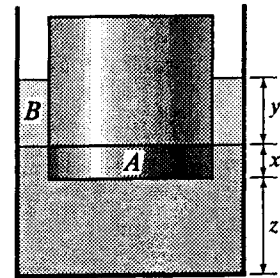

Figure X3.9.5
3.9.5 *An 8-in diameter solid cylinder 3 in high weighing 3.4 lb is immersed in liquid ($\gamma = 52$ lb/ft³) contained in a tall, upright metal cylinder of 9 in diameter (Fig. X3.9.5). Before immersion, the liquid was 3 in deep (= $x + z$). At what level will the solid cylinder float? Find the distance z between the bottoms of the two cylinders.*